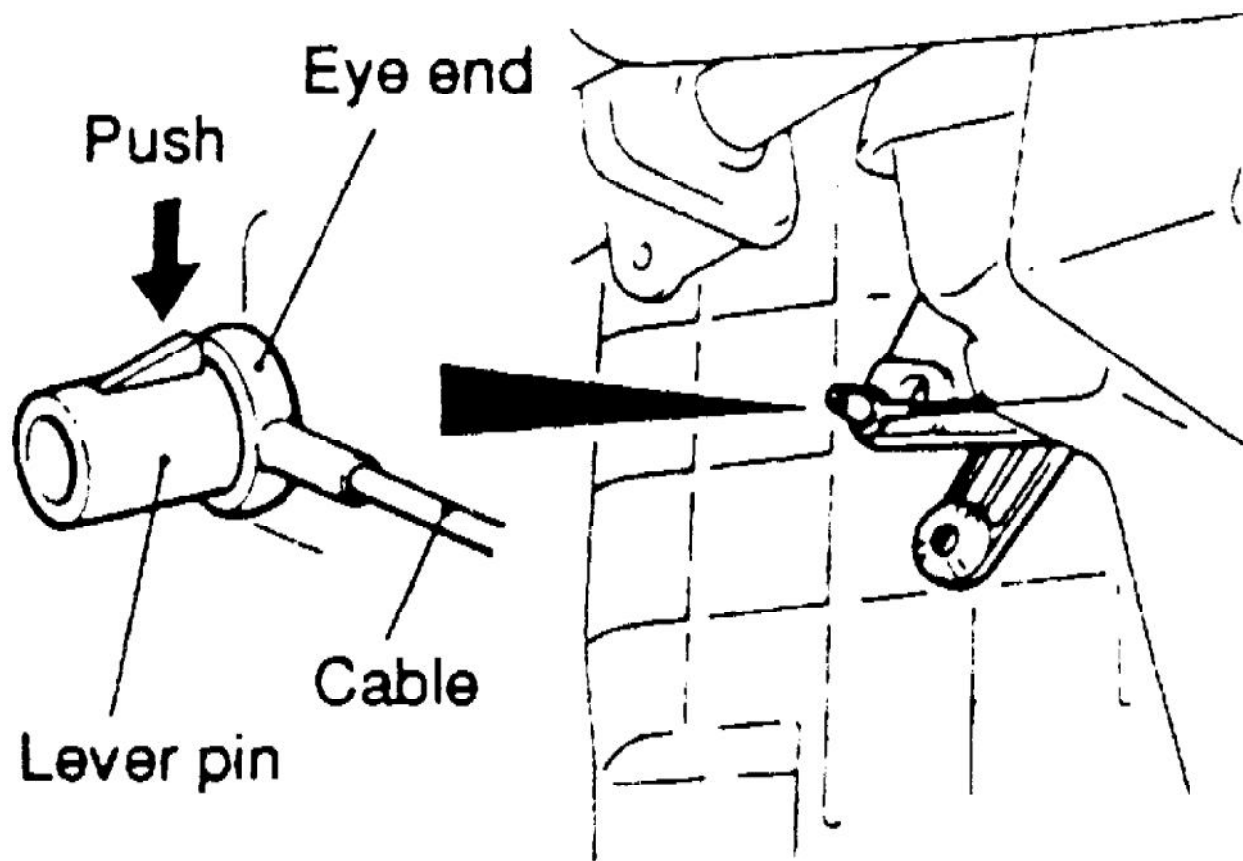

Fig. 16 Air Outlet Changeover Damper Cable
9. Remove center outlet assembly by pushing lever pin to disconnect air outlet changeover damper cable, **Fig. 16**.
- e. Set air outlet changeover damper lever of heater unit to the "DEF" position, then install cable to lever pin, **Fig. 16**.